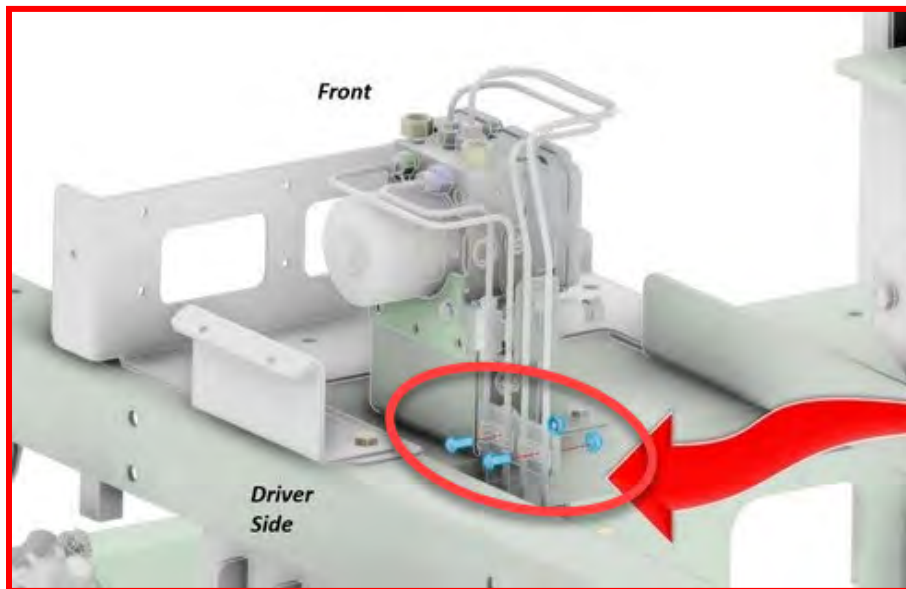

Figure 20 - Brake Line Clamp near ABS Assembly
13. Separate the right rear brake line assembly from the six (6) brake turing clips along drivers side of the frame rail
14. Remove the brake line clamp near the ABS Assembly (Figure 20)